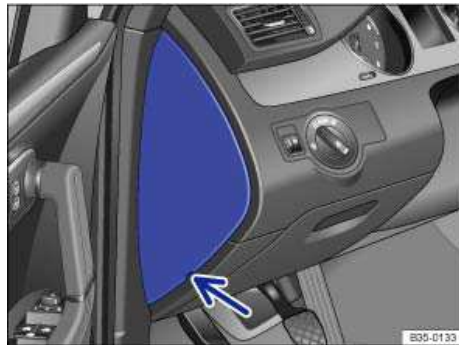

Fig. 191 On the driver side of the instrument panel: Fuse box cover.
- Insert a flat object, such as a screwdriver from the vehicle tool kit, into the opening ⇒ fig. 191 (arrow) and carefully lift off the cover.